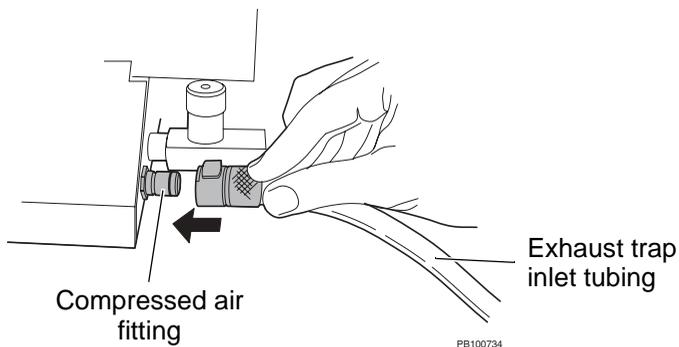

Figure 2-4 *Connecting the Exhaust Trap Line to the Spray Chamber*
4. Remove the end cap from the compressed air fitting on the APCI module (Figure 2-4). Save the end cap. You can replace it on the fitting when the spray chamber is not in use.
5. Connect the exhaust trap inlet tubing (short tubing with metal connector) to the spray chamber by slipping the connector onto the fitting until it locks in place (Figure 2-4).